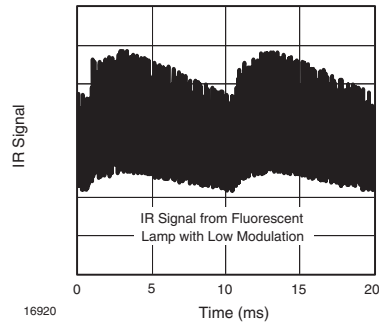
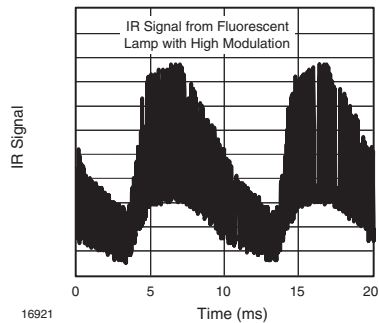

Fig. 15 - IR Signal from Fluorescent Lamp with Low Modulation
Fig. 16 - IR Signal from Fluorescent Lamp with High Modulation
- Modulated IR signals from common fluorescent lamps (example of noise pattern is shown in fig. 15 or fig. 16)